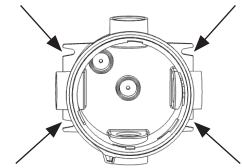

Figure 2 - Outboard Mounting Locations
2. Secure Q-Hub to mounting surface using locations provided on Q-Hub as shown in Figure 2.